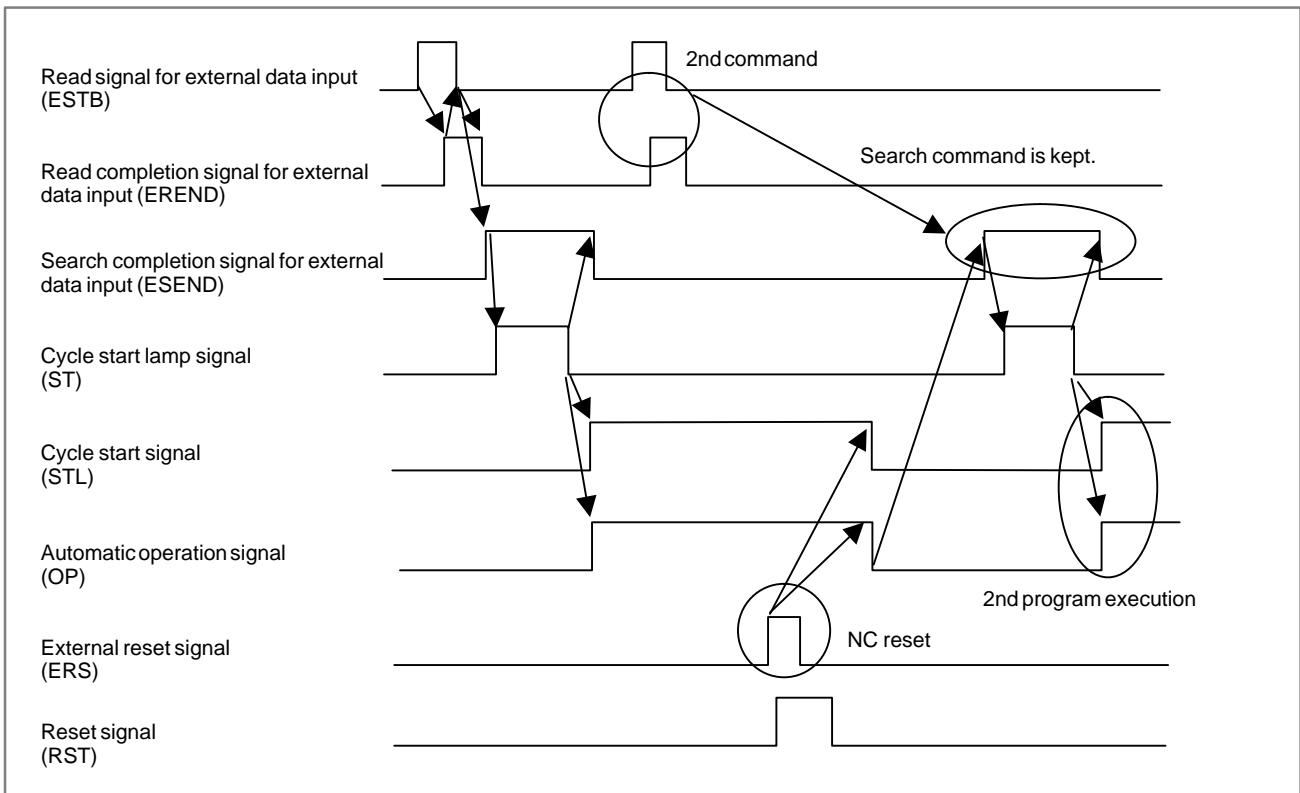

Fig. 15.2
- 5 Data for the external program number search is accepted regardless of the mode, but the search execution can be made only in the reset state. Therefore, in case that the PMC sequence, which the cycle start is executed by checking search completion signal for external data input only, is used, if the external program number search is commanded twice, the program is executed twice. (When CNC accepts a command of the program number search, the command is not cancelled even if CNC becomes reset state by external reset signal and so on.) (See Fig. 15.2)